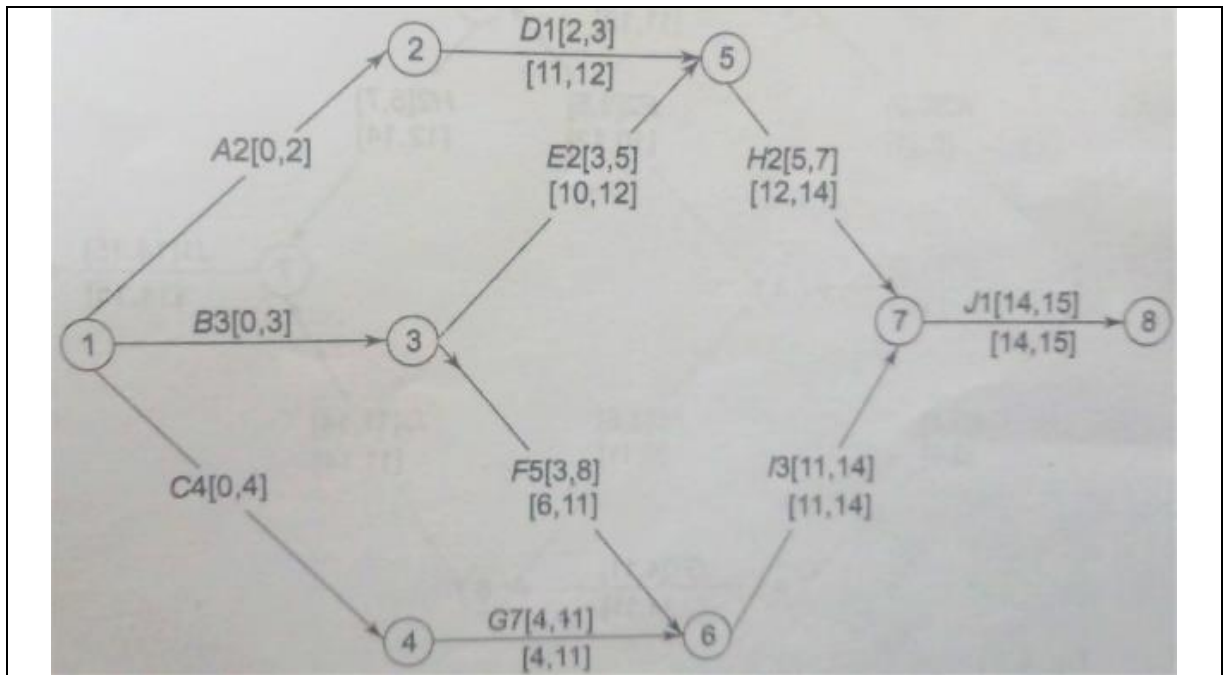

Figure 14
Step 3 : Similarly, we need to calculate latest finish and start time for each activities and the same are considered in following charts (refer figure 14, 15, and 16).